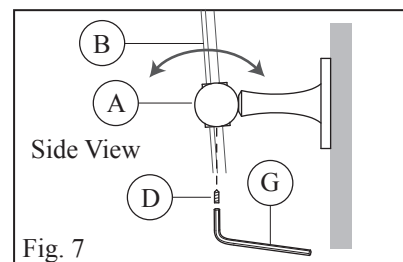

Fig. 7
10. Tilt the mirror (B) at the desired angle and tighten the pivoting brackets (A) using the Allen wrench (G) and set screws (D). (Fig. 7)